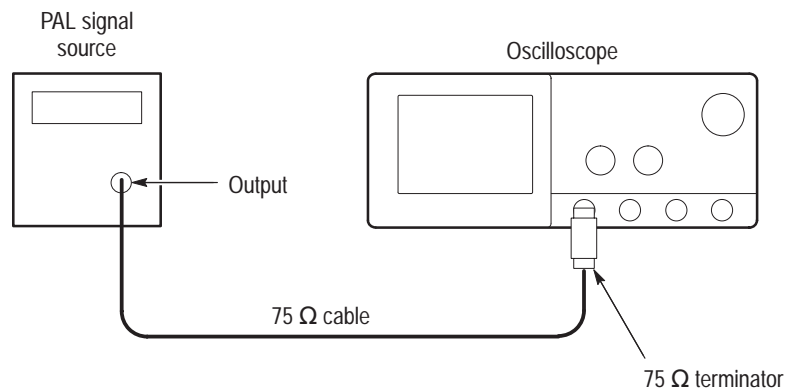

Figure 4-34: Line count accuracy test hookup
- Connect a composite output signal from the rear of the PAL signal source (labeled **COMPST** on the TSG 121) to the CH1 input through a 75 Ω cable and a 75 Ω terminator. See Figure 4-34.